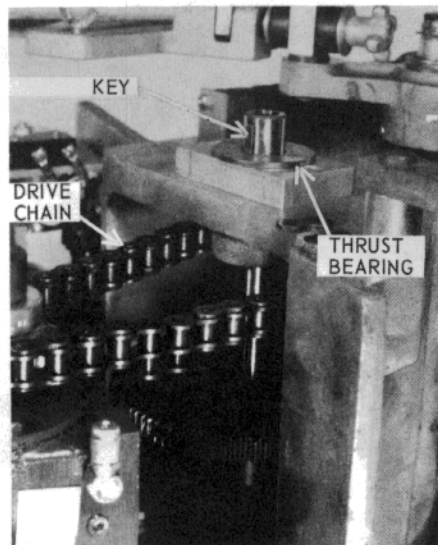
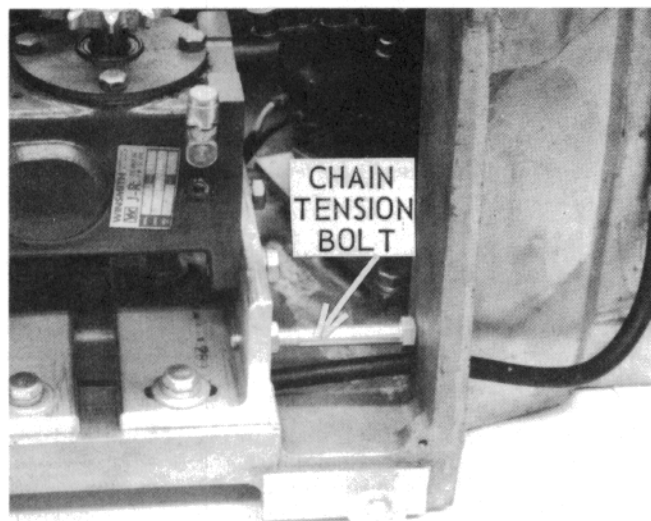

Figure 82 — Angling Shaft Thrust Bearing, Angling Crank Key, and Drive Chain
Figure 83 — Tension Adjustment
- 6.1.22 Reinstall the angling shaft thrust bearing and the angling crank key. Reassemble the drive chain (see Figure 82). Tension in the chain is adjusted by the chain tension bolt (see Figure 83). Allow approximately 1/4" deflection of the chain. **DO NOT PUT FINGERS NEAR MOVING PARTS.**